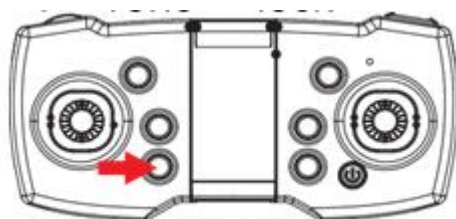

Figure 1
1. Drone Unlock: When the drone has successfully positioned itself outdoors, the drone needs to be unlocked to start, press and hold the remote control. Press the "unlock" button (Figure 1). At this